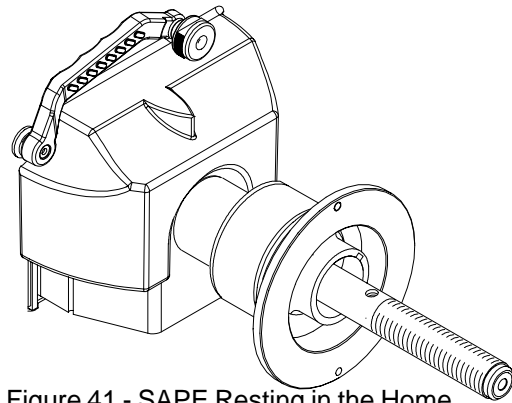

Figure 41 - SAPE Resting in the Home Position
1. Make sure the SAPE arm is in the home position as shown in Figure 41.